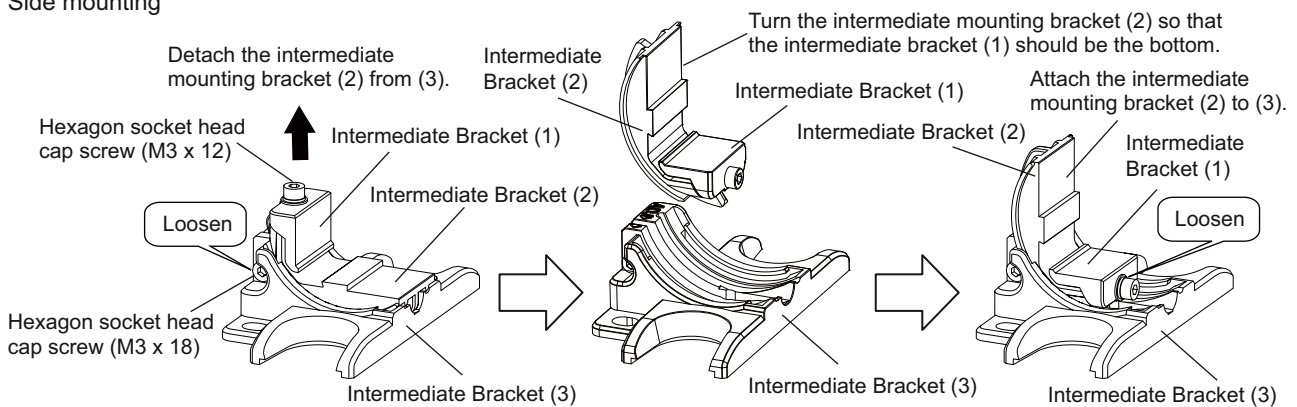

Figure 25
To use it for side mounting, remove the intermediate bracket (2) from the intermediate bracket (3) and change the direction of the bracket as shown in Fig.25.